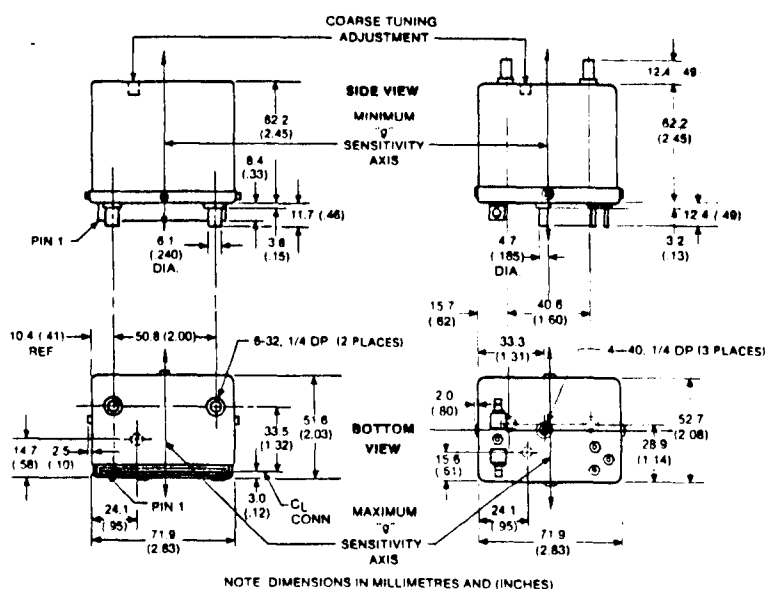

Figure 3. 10811D/E mechanical mounting dimensions.
Figure 3 shows the mechanical mounting dimensions of the 10811D/E Oscillators for use in custom installation. All quartz oscillators are sensitive to shock, vibration, radiation fields, and ambient temperature changes. Therefore, to obtain the best performance from your 10811D/E, these factors should be taken into consideration. To optimize performance:
1. The 10811D/E should be mounted in an area that has a minimum amount of vibration or shock acceleration. In addition, the 10811D/E should be mounted so that the vibrational forces act along the "minimum G sensitivity" axis shown in *Figure 3*.